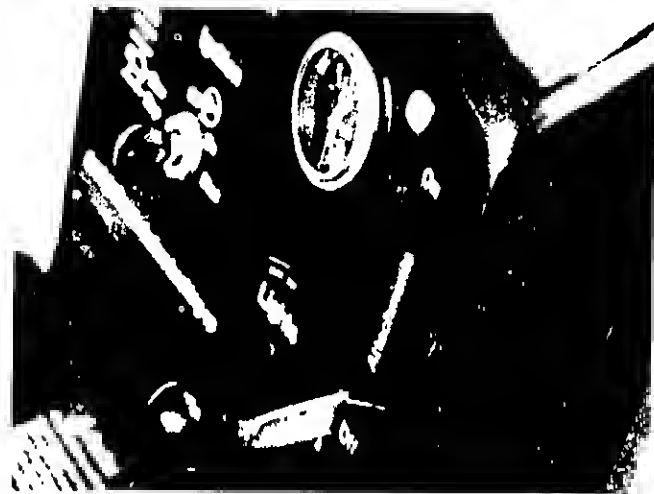

FIGURE 14.
The PTO engagement lever is located on the right side of the dashboard. It is used to engage the blades on the cutting deck or snow thrower attachments. To turn on the attachments, lift the lever slowly and lock it in the notch. To turn off the attachment, remove the lever from the notch and lower it to the "OFF" position. (See figure 14.)
1. Place the PTO lever in the disengaged position (down). See figure 14.